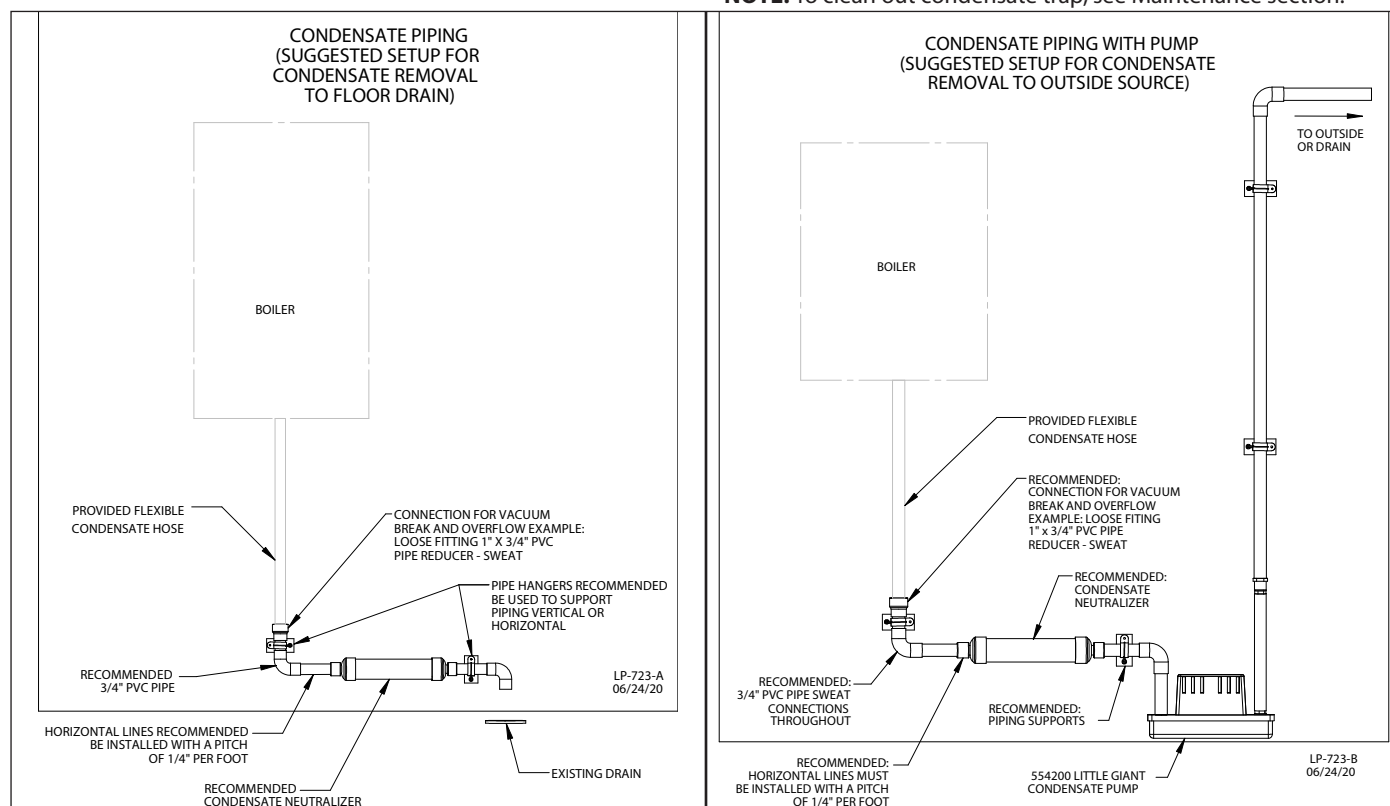

Figure 47 - Condensate Piping Suggestions
8. Local building codes may require an in-line neutralizer to be installed (not included) to treat the condensate. See Figure 47. If required by local authorities, a condensate filter of lime crystals, marble, or phosphate chips will neutralize slightly acidic condensate (p/n 7450P-212 available from HTP). Follow all the installation instructions included with the neutralizer. If a neutralizer is installed, periodic replacement of the limestone (or neutralizing agent) will be required. The rate of depletion of the limestone varies with usage of the boiler. During the first year of boiler operation, check the neutralizer every few months for depletion.